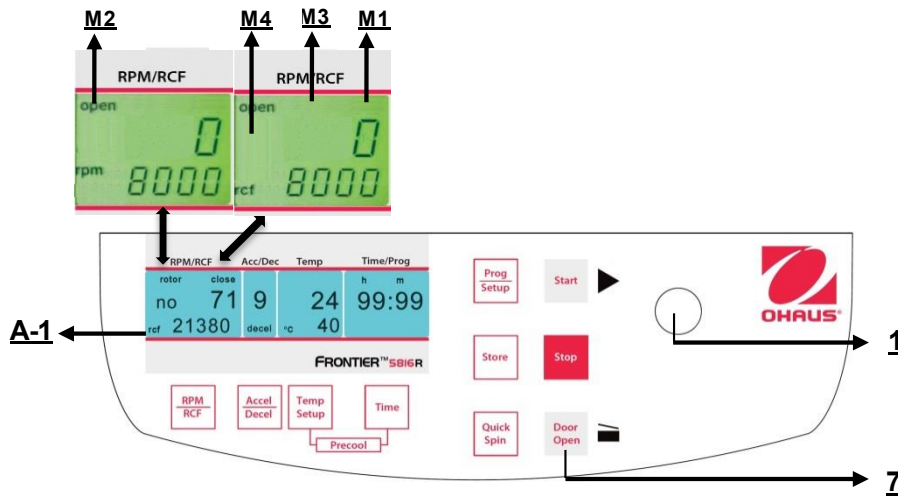

Figure. 15
After the run, when the lid of the centrifuge is closed, the word "**close**" (M1) appears in the display "**RPM | RCF**" (A-1). Additionally, if there is a rotor in the centrifuge, the word "**rotor**"(M3) appears as well as the code number of the respective rotor, which is in the centrifuge system "**71**" (M4). If there is no rotor in the centrifuge, the word "**rotor**" (M3) flashes and additionally the word "**no**"(M4) appears. By pressing the key "**Door Open**" (7) you can release the lid of the centrifuge. As soon as the electromagnetic lid is completely released, the word "**open**" (M2) appears. Now you can open the lid of the centrifuge. Please refer to figure 15 below for reference.
The lid should only be put down slightly. An electromagnetic lid lock closes the lid, at the same time the word **"open"** (M2) disappears (refer to figure 15).